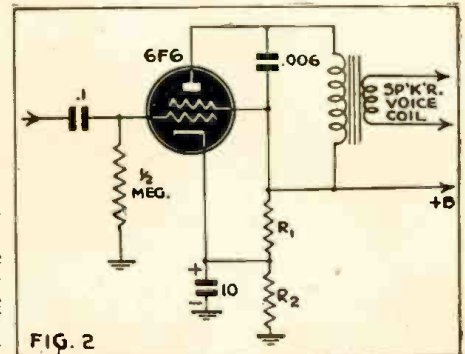
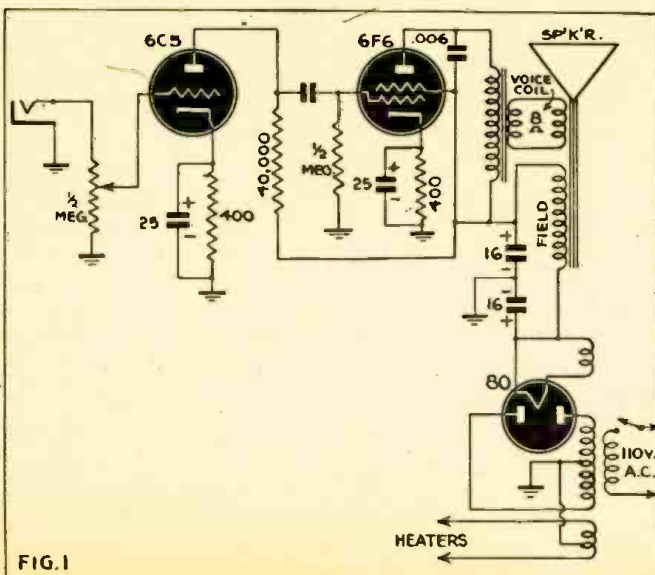
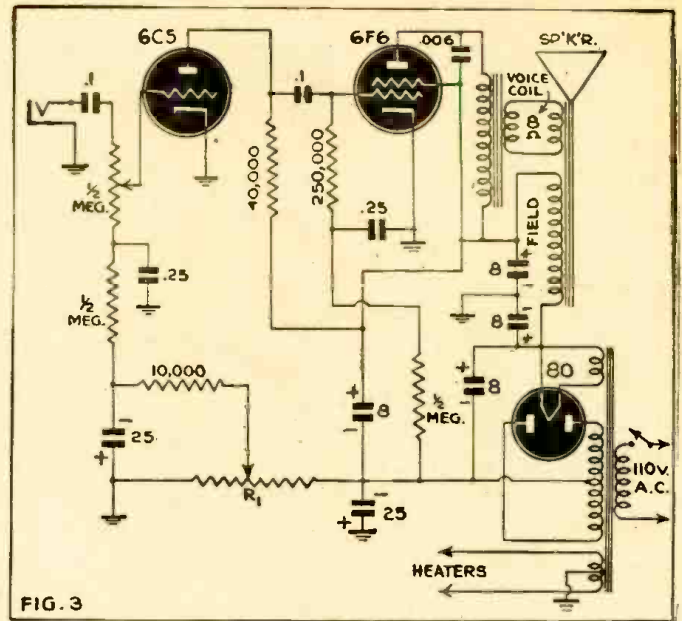
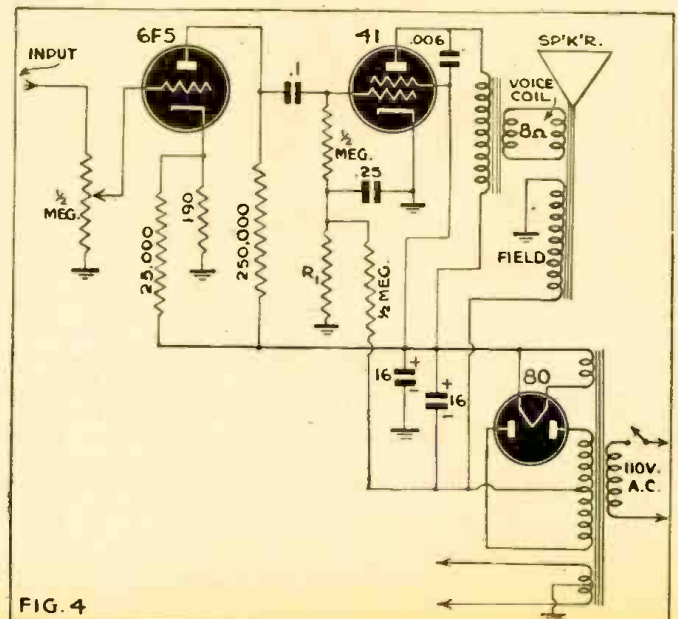

FIG. 2
FIG. 1
FIG. 3
FIG. 4
(1) The CURRENT FLUCTUATIONS in a half wave antenna may be represented by the vibrations of a stout rubber band held fixed at the ends and plucked at the center so as to vibrate as in FIG. 3-A. Our rubber band would, of course, have to vibrate a million times a second to really represent our 1000-kc. R.F. current.
In FIG. 3-A:
(2) VOLTAGE fluctuations in our wire may be crudely represented by screwing a thin steel strip (as used to hold large packing boxes together) at the center and setting both ends in vibration (Fig. 3-B). Our steel strip would have to vibrate a million times a second to represent adequately our 1000-kc voltage!
In Fig. 3-B:
Fig. 4—The electrostatic and electromagnetic fields around a vertical antenna during a complete cycle of R.F. antenna voltage and current, and below, the relative phases of voltages and currents setting up these fields.
alternating R. F. voltage alternates, and since these are the HIGHEST values attained by the voltage ANYWHERE along the whole wire, we see why it was that our neon lamps glowed most brilliantly at the ENDS of our wire (Fig. 3-B).
Again at C, the voltage alternates through all values between "+G and -J volts" which limiting values are still less than the peak values at B. Thus we should expect a neon lamp here to be dimmer still, which was indeed the case (Fig. 2-B).
Fig. 3—Another view of current and voltage distribution. At A are shown the values through which current may pass during a cycle, at any point on the antenna wire. Similar voltage values are shown at B, while at C, the average current and voltage values are shown in single-line graphs.
It's ten to one that you used something like the circuit of Fig. 1 when you decided to build a phono amplifier with this magic tube with which to amaze your friends. This is the typical circuit we all know well.
Our primary aim, then, is to make the bias voltage completely independent of the tube to be biased. This is the primary feature of fixed bias. One way to do this is to connect the cathode of the 6F6 output tube of Fig. 1 to a point on a bleeder across the B+ supply (Fig. 2). One can see that through R2 we have two current components—the cathode current and the bleeder current. The cathode current is subject to the same variations as before but the bleeder current (assuming a decent power supply) is constant.
Second, the ordinary receiving type power tube has no critical grid impedance, and so we may forget about that. All we have to do is to unground the grid return of our 6F6 in the circuit of Fig. 1 (or of any other tube in a similar application—the 6F6 is here used merely as an example) and apply the right bias from the simplest source we find handy—anything that gives 22.5 volts and is stable. Some tubes, like the 6V6, have a fairly low maximum permissible grid resistance. The solution to this problem is merely to use transformer coupling.
One of the most widely used methods of biasing is the type using a resistor in the negative return of the power supply. It is the one found in 90% of the commercial A.C. sets. In this type, a resistor is inserted between the power transformer's high voltage secondary center tap and ground. The entire B+ current must pass through the resistor in such a direction that a voltage, negative with respect to ground, builds up across the resistor. By using the correct resistance value, the correct voltage for biasing the output stage may be obtained. Fig. 3 shows the circuit of Fig. 1 adapted for this biasing system. The value of R1 may be determined as follows by applying Ohm's Law: If I_t represents the total current drawn from the power supply (including current drawn by any bleeders which some circuit other than that of Fig. 4 may use), then, for a 6F6 in class A1 (22.5 volts bias):
coupling resistor-condenser networks, to prevent the hum from reaching the grids of the audio tubes. Extra filtering is also required—note the two pairs of filter condensers in Fig. 4. Low supply voltage and additional difficulty in filtering the output of a half-wave rectifier make the system entirely impractical for A.C.-D.C. sets. It is cheaper to use two tubes in push-pull with cathode bias than to buy the condensers and find the extra chassis space required to bias a single tube by this method.
The commercial A.C. set designers have several tricks that the experimenter might well profit by to help him overcome the disadvantages while retaining all the advantages of this system of fixed bias. Fig. 4 shows the circuit of an audio system closely paralleling that of a G.E. set. The circuit was noted down while the set was in the author's shop for servicing because of the efficient way in which the type 41 operated and the neatness with which most of the undesirable features of the bias supply system just described were overcome. The main feature of the circuit is the substitu-
Using the necessary voltage drop across the speaker field coil to supply negative bias voltage make this a more efficient circuit than that of Fig. 3. Fair power levels may be attained with this hookup.
This tangency tracking error can be minimized by using a pick-up with a stylus head off-set about 30 degrees or so. A medium-sized arm with a tangent off-set head used on a standard-sized recording will result in only about one or two degrees of tracking error. When a longer arm of about 12 or 14 inches is used with such a head, the tracking error is negligible. See Fig. 1 (a) and (b).